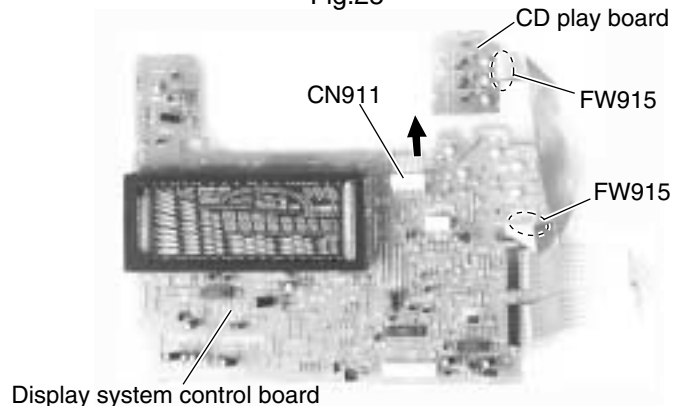

Fig.26
■ Removing the CD play board (See Fig.26 and 27)